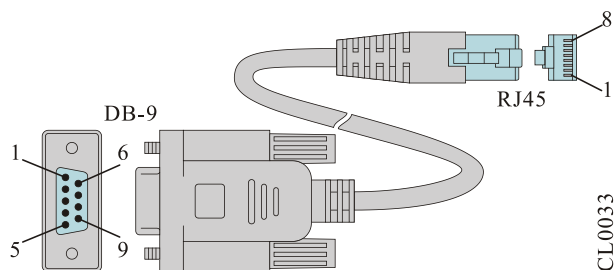
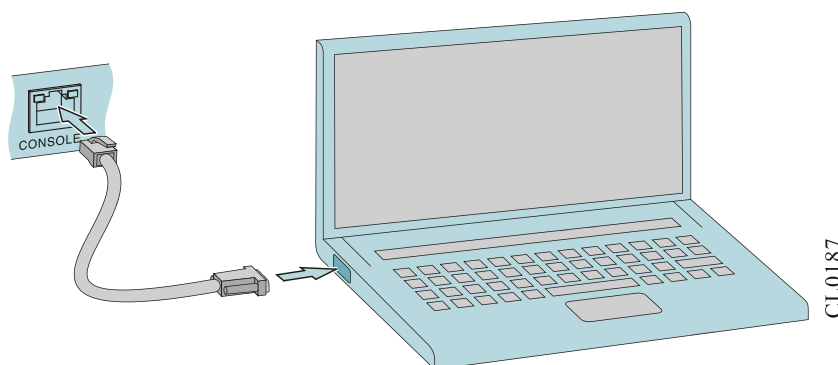

Figure 4-1 Console cable
Figure 4-2 Connect the router and PC via the Console port
- Step 3: The configuration cable (configured with the router) is one eight-core unshielded cable. One side is the crimped RJ-45 plug, inserted to the Console port of the router; the other side is one DB-9 (hole), inserted to the nine-core (pin) serial interface socket of the PC (or laptop). The configuration cable is shown in Figure 4-1, and the connection diagram is shown in Figure 4-2.